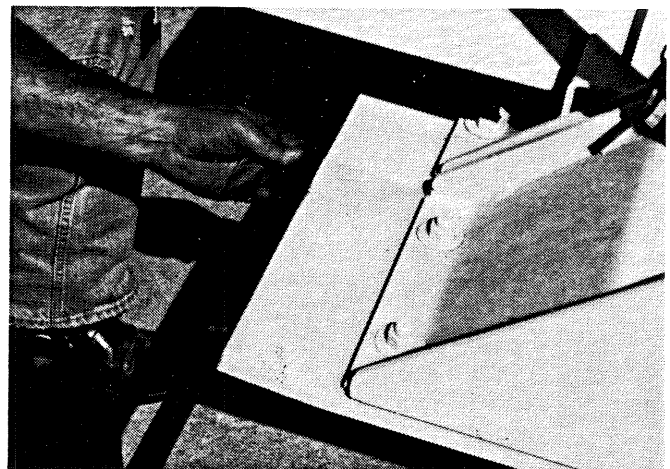
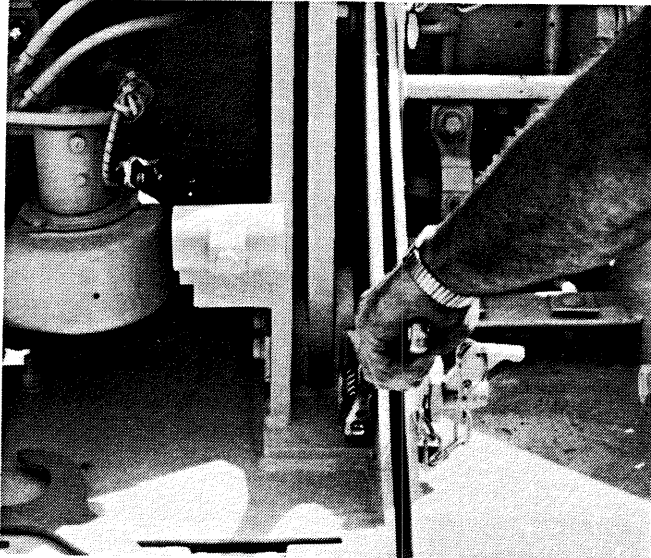

Figure 22
Figure 23
(11) Check the trailing edge of the screed extension. It should line up with the main screed. **(Figure 22)** If not, slide the extension forward or back so the trailing edge will line up with the main screed. **(Figure 23)**